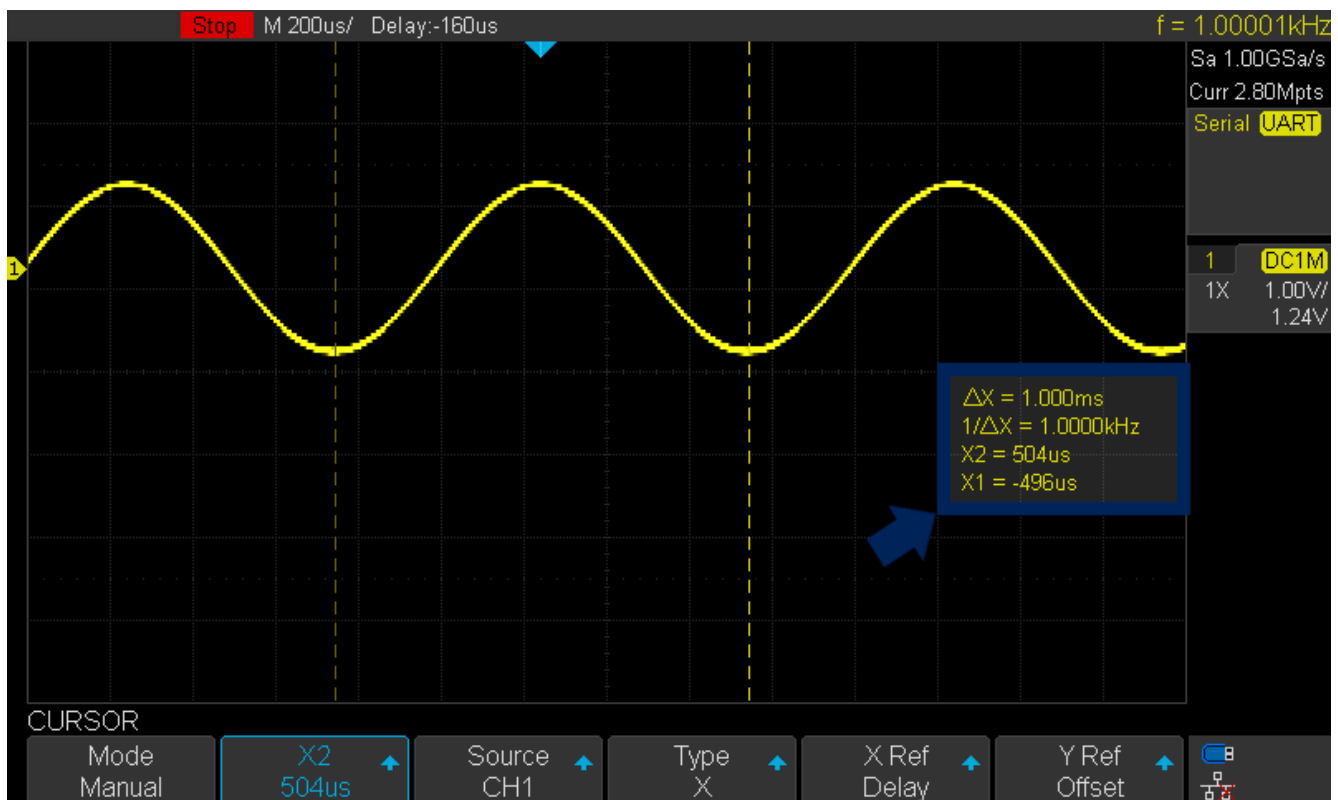

Figure 10.1 X Cursors Box
Use the **Universal Knob** to set the X1 and X2 cursor values. The values are displayed in the cursors box along with the difference between X1 and X2 (T) and 1/T. (See figure 10.1)